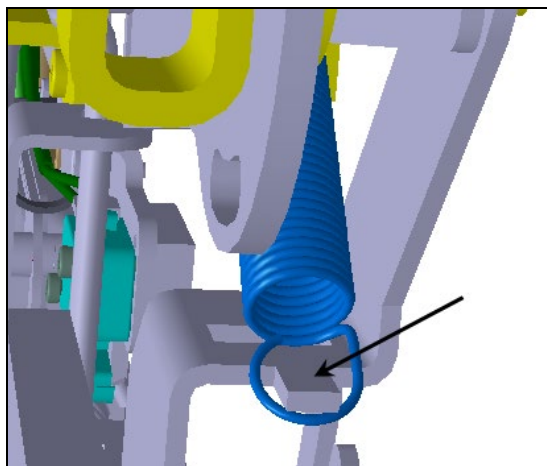

Fig.10
- Reinstall both ends of the return spring (Fig.10 and 11) *and tighten the two retaining screws.*